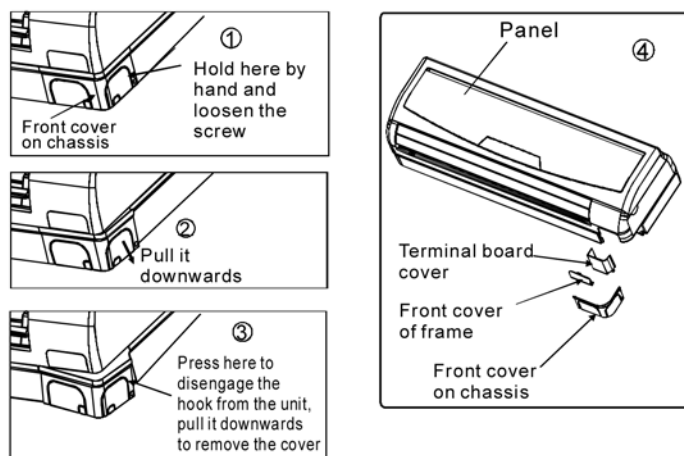

Fig. 21
2. Remove the panel and screw, then remove the window cover. (fig. 21)